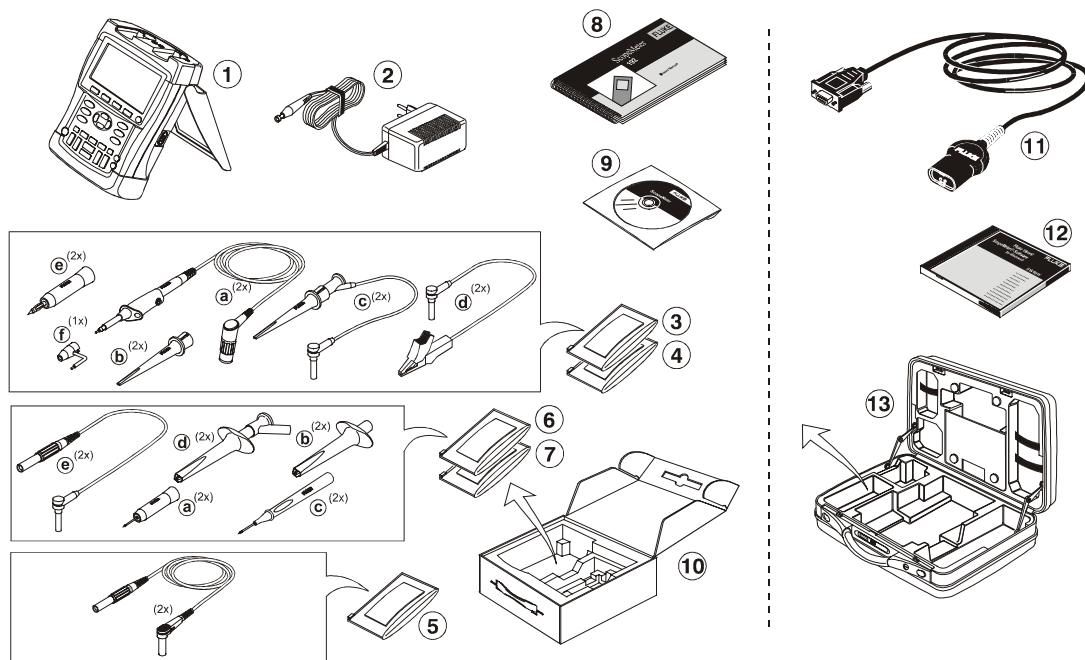

Figure 1. ScopeMeter Test Tool Kit
- Do not connect the ground spring (figure 1, item f) to voltages higher than 42 V peak (30 Vrms) from earth ground.